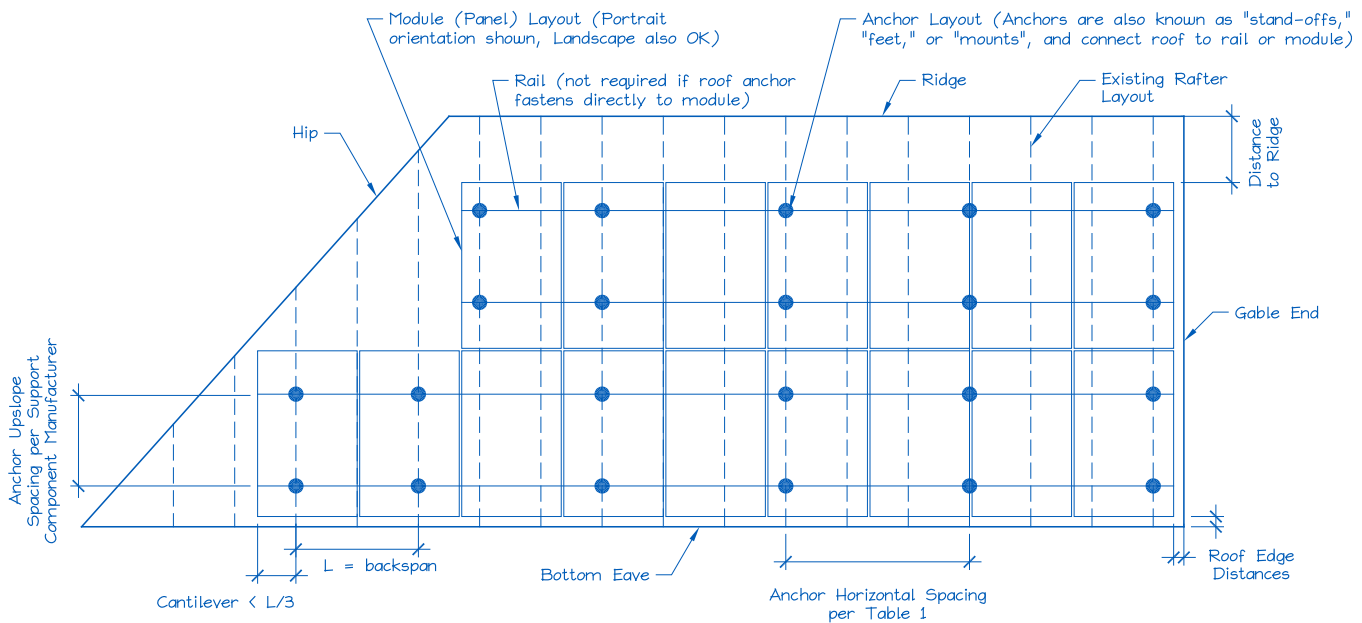

Figure 2. Sample Solar Panel Array and Anchor Layout Diagram (Roof Plan).
E. Is a roof plan of the module and anchor layout attached? (see Figure 2)
| 1) Proposed anchor horizontal spacing (see Figure 2): | _____ ' - _____ "ft-in |
1. Anchors are also known as "stand-offs", "feet", "mounts" or "points of attachment". Horizontal anchor spacing is also known as "cross-slope" or "east-west" anchor spacing (see Figure 2).